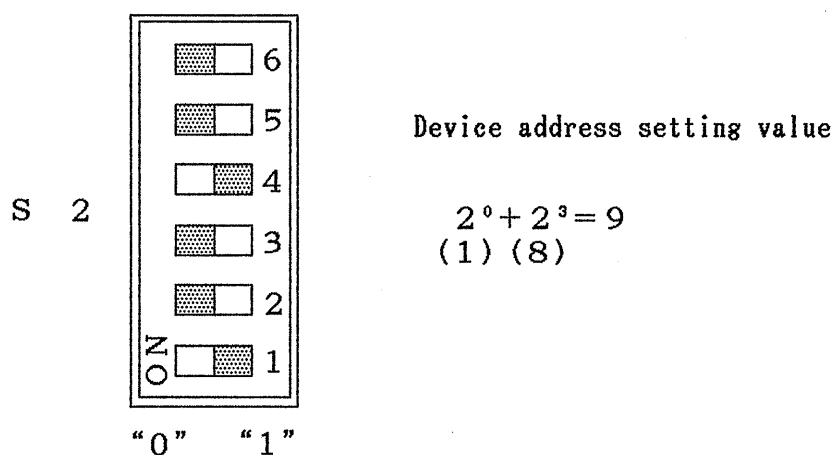

Figure 6-1
- c) Figure 6-1 shows how S2 is set for address "09".